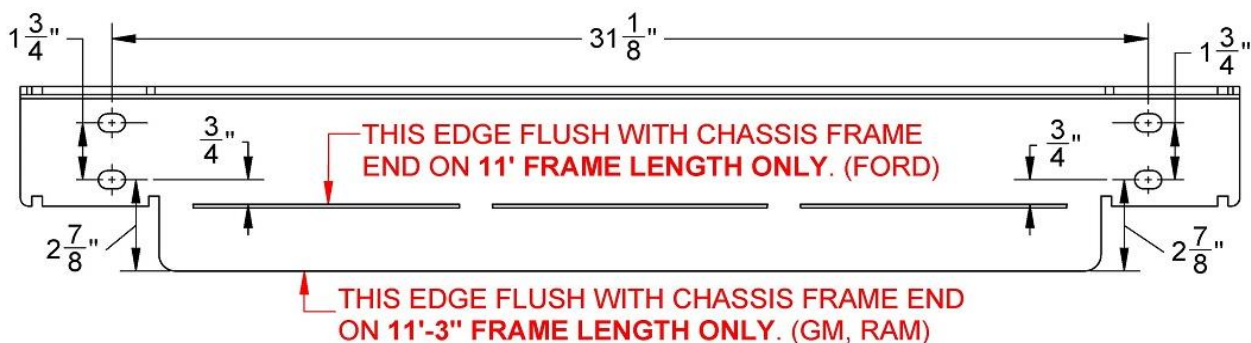

Figure 4-A: Rear Hinge Angle Dimensions
7) Check the distance from the center punch marks on one side of the vehicle frame to the other. Distance should be $31-1/8" \pm 1/8"$, see *Frame Installation: Fig. 4-A*.
If welding *Rear Hinge Angle*: Line up the appropriate edge of the *Rear Hinge Angle* (see *Fig. 4-A*) with the ends of chassis frame.